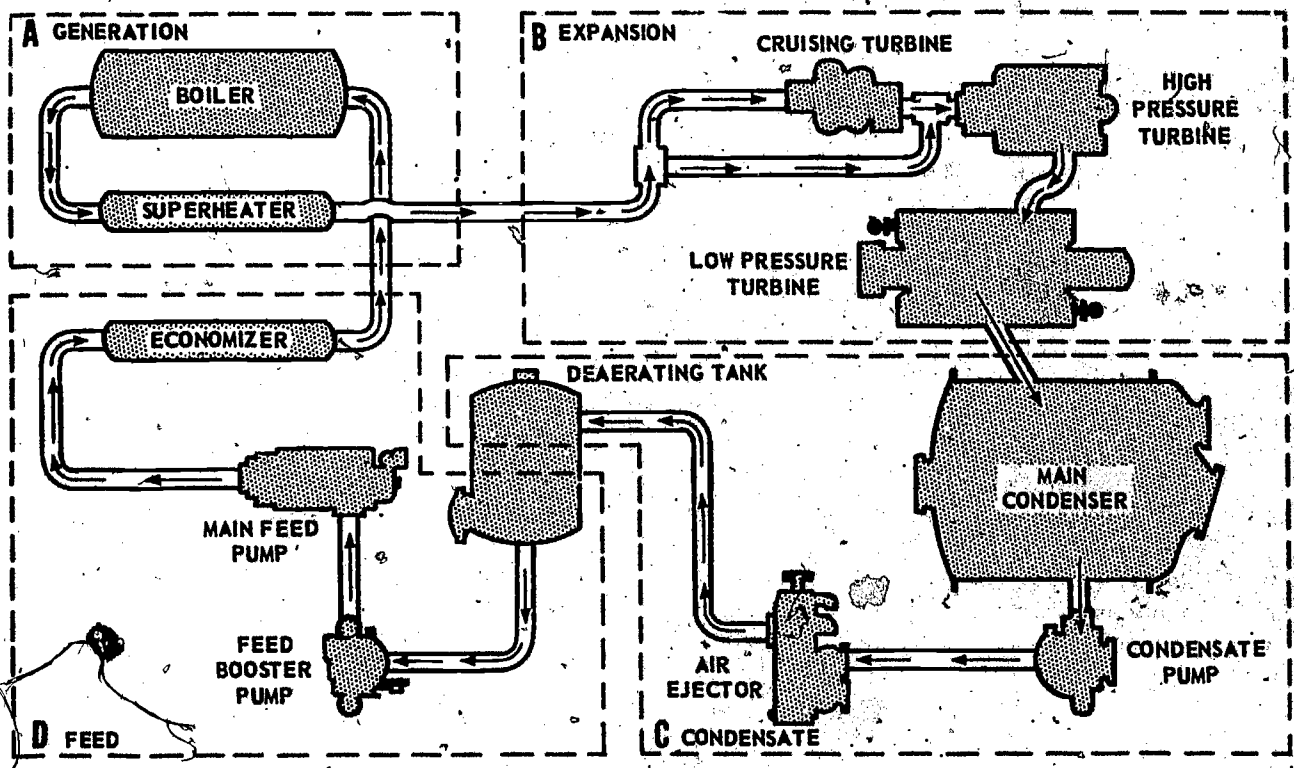
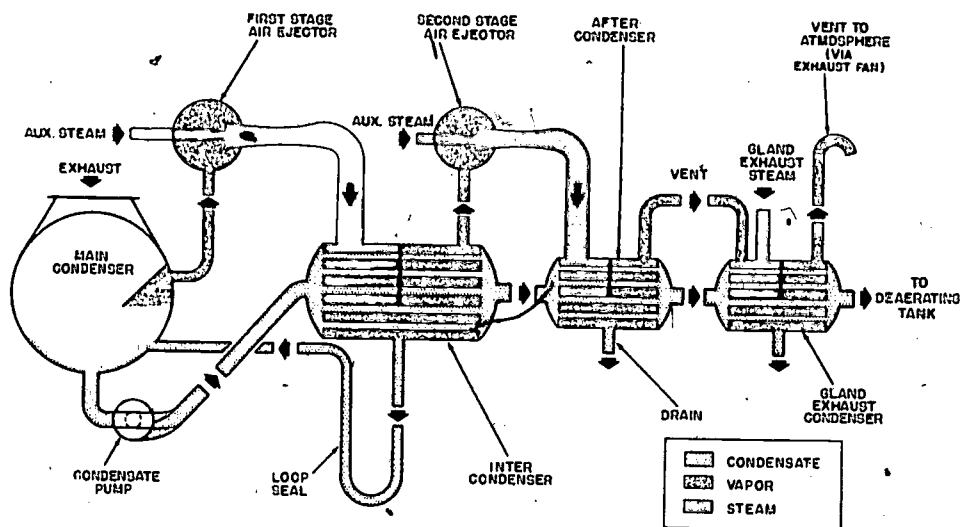

Figure 5-1.—Diagrammatic, arrangement of the main steam cycle.
Figure 5-4.—Flow diagram of a two-stage air ejector.
A discussion follows of the four basic areas of operation in a steam cycle, shown in figure 5-1: part A—generation; part B—expansion; part C—condensation; and part D—feed.
To generate steam, it is first necessary to heat water to its boiling point and then add a sufficient amount of heat to change (convert) the boiling water into steam. The heat required to change boiling water into steam, at any given temperature of the boiling water, is called the latent heat of vaporization. When steam condenses back to water (at boiling point), an equal amount of heat is given off; it is called the latent heat of condensation. The amount of heat required to convert boiling water to steam, or the amount of heat given off when steam is condensed back to water at its boiling temperature, varies with the pressure under which the process takes place. Part A of figure 5-1 illustrates the generation area of the cycle.
The main turbines generally consist of the cruising turbine, high pressure turbine, and the low pressure turbine. The steam may flow into the cruising turbine, then to the high pressure turbine and on into the low pressure turbine; or the cruising turbine may be bypassed. Some main turbine installations do not have a cruising turbine. Part B of figure 5-1 illustrates the expansion portion of the main steam cycle; it contains the cruising turbine, high pressure turbine, and low pressure turbine.
The several components of the condensate system, in sequence, from the low pressure turbine are: (1) main condenser, (2) main condensate pump, and (3) the main air ejector. (See fig. 5-4.) These components are shown in part C of figure 5-1.
The main feed pump picks up the water (delivered from the booster pump) and discharges it into the main feed piping system. Part D of figure 5-1 illustrates the path of the water from the deaerating feed tank to the economizer. The discharge pressure of the main feed pump is usually about 150 psi greater than the boiler operating pressure. For example, the discharge pressure of a main feed pump, discharging to a boiler operating at 600 psi, will normally be 750 psi. The discharge pressure is maintained throughout the main feed piping system; however, the quantity of water discharged to the economizer is controlled by a feed stop and check valve or automatic feed water regulator valve.